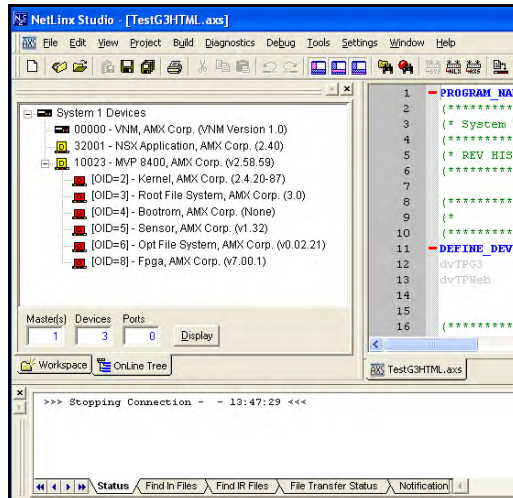

FIG. 84 Using USB for Virtual Master communication (NetLinx Studio)
4. Right-click on the System entry (A in FIG. 84) and select **Refresh System**. This causes a refresh of all project systems, establishes a new connection to the Virtual Master, and populates the System list with devices on your particular system.